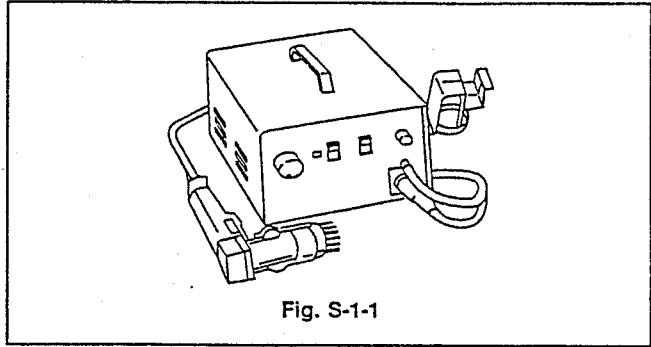

Fig. S-1-1
- Prepare the hot-air flat pack-IC desoldering machine, then apply hot air to the flat pack-IC (about 5 to 6 seconds). (Fig. S-1-1)